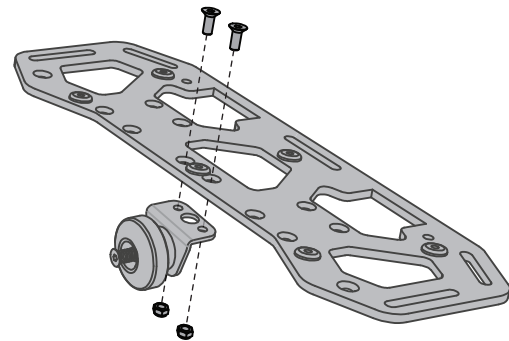

Figure 9. Install Quick Release Knob
3. Install one Quick Release Knob to each Cargo Rack using two 16 mm fasteners and two Nyloc nuts, as shown in **Figure 9**. Torque the fasteners to **6.0 N-m (4.4 ft-lbf)**.